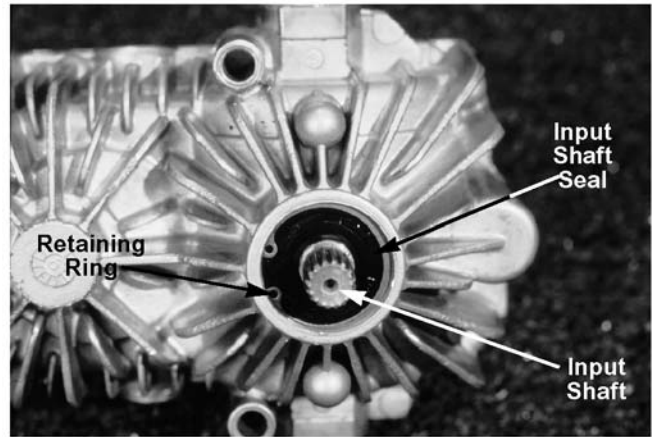

Figure 5-27.
- C. Retaining ring. See Figure 5-27.